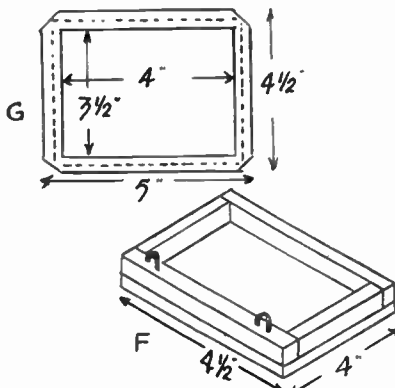

Fig. 4—Type box details
The chase or type box (F) in Fig. 4, is a rectangle of $\frac{1}{4}$ in. fretwood. Strips of wood, $\frac{3}{8}$ in. thick and $\frac{1}{2}$ in. wide are firmly glued and screwed to it, making a shallow tray to hold the type. A metal frame is now made to the size given at (C) from tinplate. This is to hold the padding between the type and flat base of